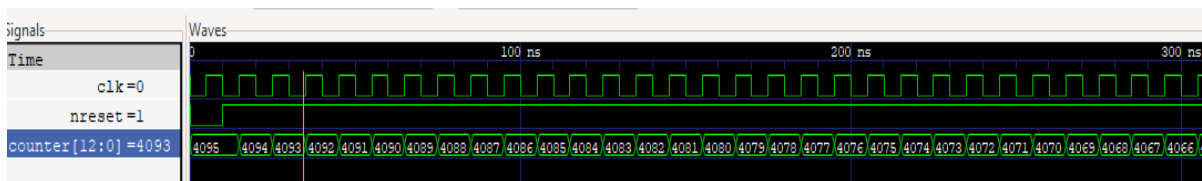

Figure 2: Countdown Timer Functional Waveform
Using the ForgeFPGA Workshop software, the Verilog code was synthesized, and the bit stream was loaded on to the SLG47910 device. The functional waveforms below (see Figure 2) shows the countdown timer counting from 4095(default setup) down to 0
10. In the GTKWave software, select the signals you want to view and Click Insert on the left corner to insert the signals in the wave window. Once the desired signals are selected, click on Reload (Figure 2).